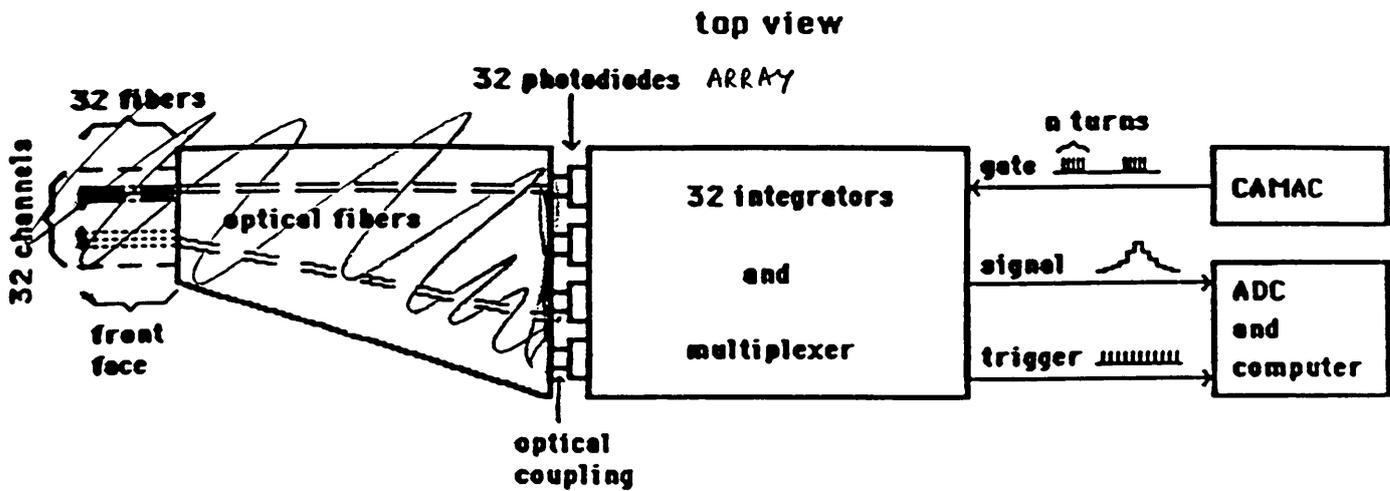

Figure 5.2: Transverse profile camera
5.1.1 TPC Description (Fig. 5.2)